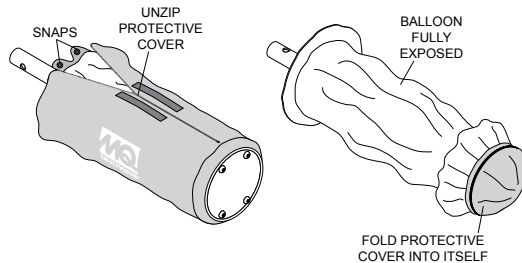

Figure 11. Removing Protective Cover
1. Expose the balloon by unsnapping the buttons and unzipping the protective cover as shown in Figure 11.
2. Next, fold the protective cover into itself and zip. See Figure 11.